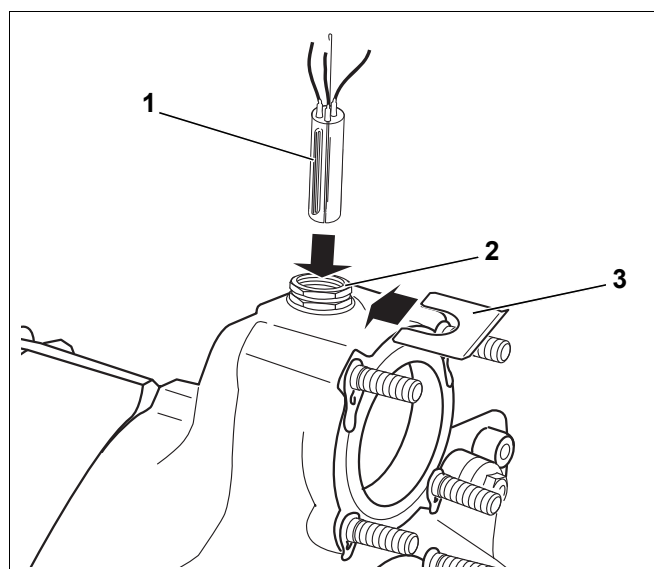

Fig. 45 Sensor bundle installation
The sensor bundle (three sensors, one sensor blank Fig. 45, [1]) connected to the control unit is fitted into the  $\frac{3}{4}$ " sensor well.
- Lead the capillary sensor to the measuring point on the boiler and insert it into the sensor well (Fig. 45, [2]); then secure the assembly with a sensor securing device (Fig. 45, [3]).